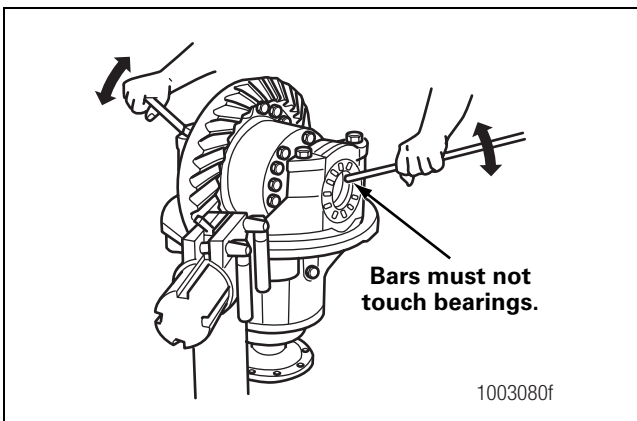

Figure 5.52
- A. Insert two pry bars between the bearing adjusting rings and ends of the differential case. The pry bars must not touch the differential bearings. Figure 5.52.